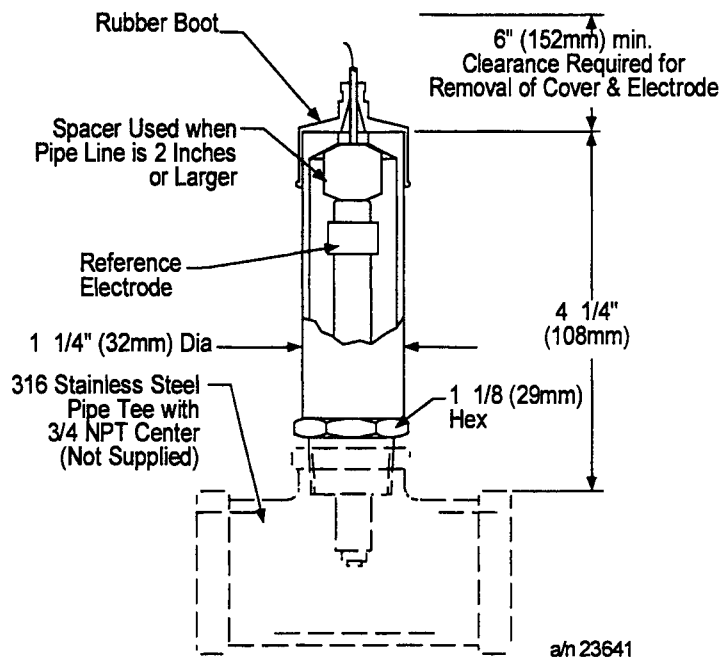

Figure 3-3. Assembled Mounting Using a Reference Electrode (Spacer shown above electrode provides greater depth of insertion needed for larger pipes)
Dimensions of the 7758 Electrode mounting are given in Figure 3-3. Mount and tighten the bushing in the 3/4 NPT of the pipe tee using a suitable pipe compound. Good results have been obtained using Loctite high performance pipe sealant with Teflon. For pipe lines of 3" and larger diameter, drill and tap the pipe wall for 3/4 NPT.
1. If the pipeline is 2" or more in diameter, slip the 31301576 plastic spacer provided onto the cable. This effectively extends the electrode deeper into the pipe-line to provide the proper immersion. See Figure 3-3 for proper positions of the spacer.